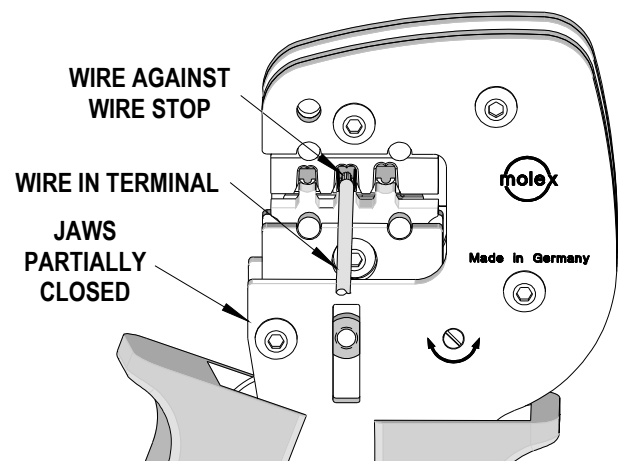

Figure 4
5. Gently touch the wire stop with the end of the wire. See Figure 4 and 5.